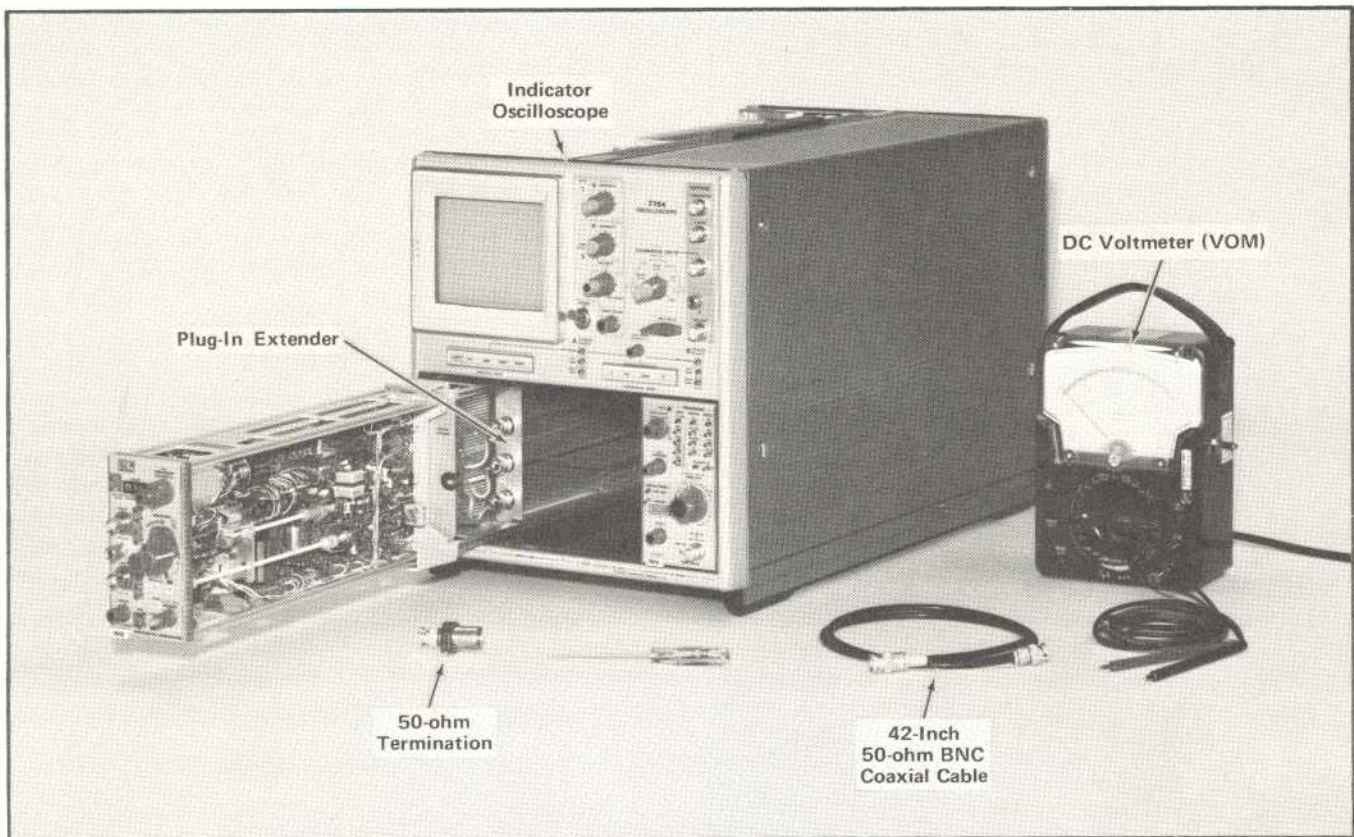

Fig. 5-2. Equipment required when using steps 1 through 9 as a calibration procedure. (The performance check begins with step 8. See text.)
- Test equipment setup is shown in Fig. 5-2.